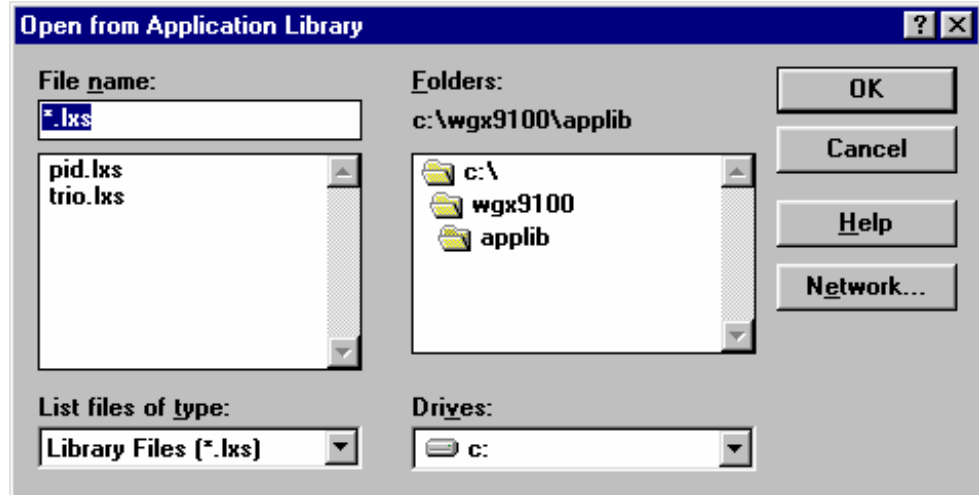

Figure 8-9: Open from Application Dialog Box
1. On the file menu, click Open from Library. The Open from Application Library dialog box appears (Figure 8-9).